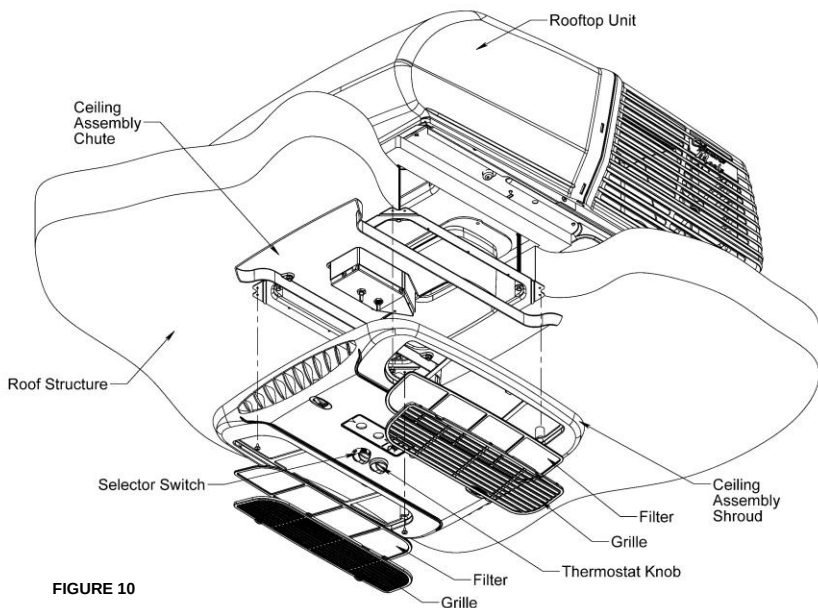

FIGURE 10
- K. Raise the ceiling shroud, ensuring it meshes with the chute, and secure to the mounting frame with the four provided screws. (See Figure 10).